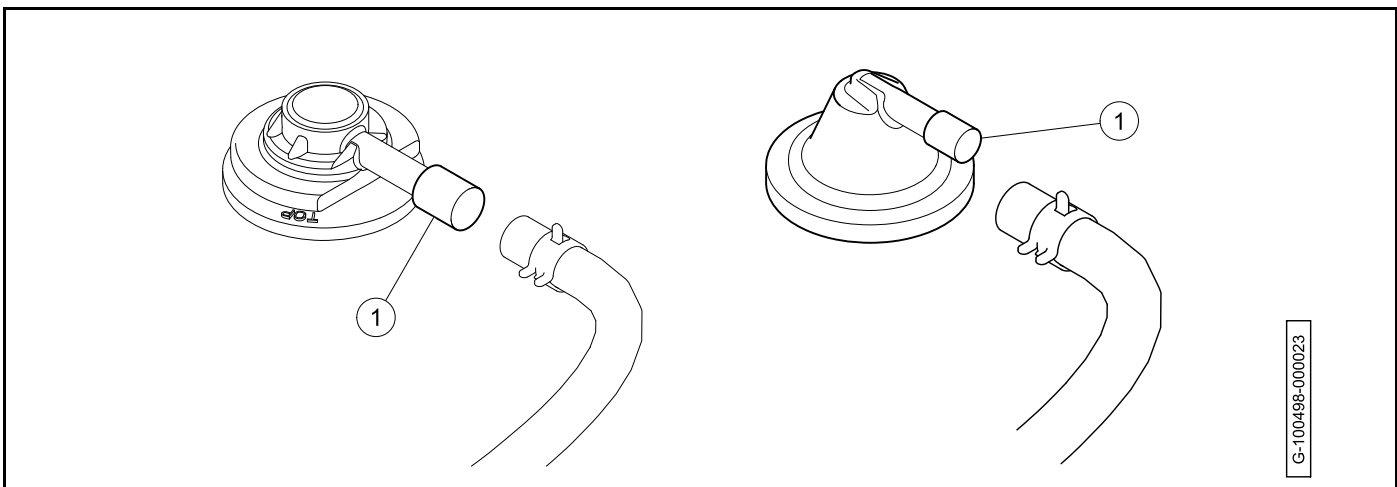

Figure 3-1 Left: Kohler / Right: Subaru
11. Plug the fuel tank vent nipple with a slip-on vinyl cap (1) (**Figure 3-1, Page 3-4**). Make sure that the connection is air tight.